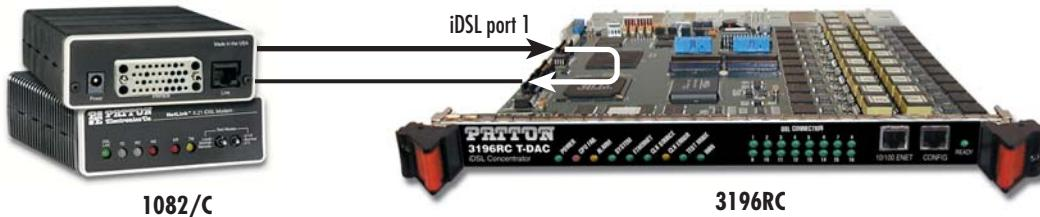

Figure 72. Line loopback
- **lineLoop(3)**—The T-DAC’s iDSL port will operate in line loopback mode as shown in figure 72. For the CPE remotely connected to this port, you can use lineLoop(3) mode to test the iDSL link from the CPE to the T-DAC and back to the CPE.